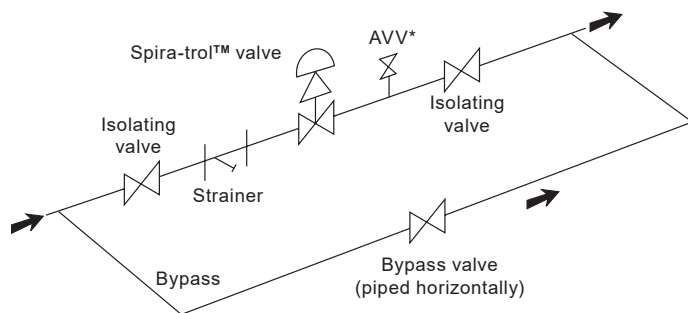

Fig. 3
- 3.6** Determine the correct installation situation and the direction of fluid flow. The valve should preferably be installed along a horizontal pipeline with the valve mounted above the pipe (see Figure 3). When mounting an actuator to the valve body, the actuator Installation and Maintenance Instructions must be followed.